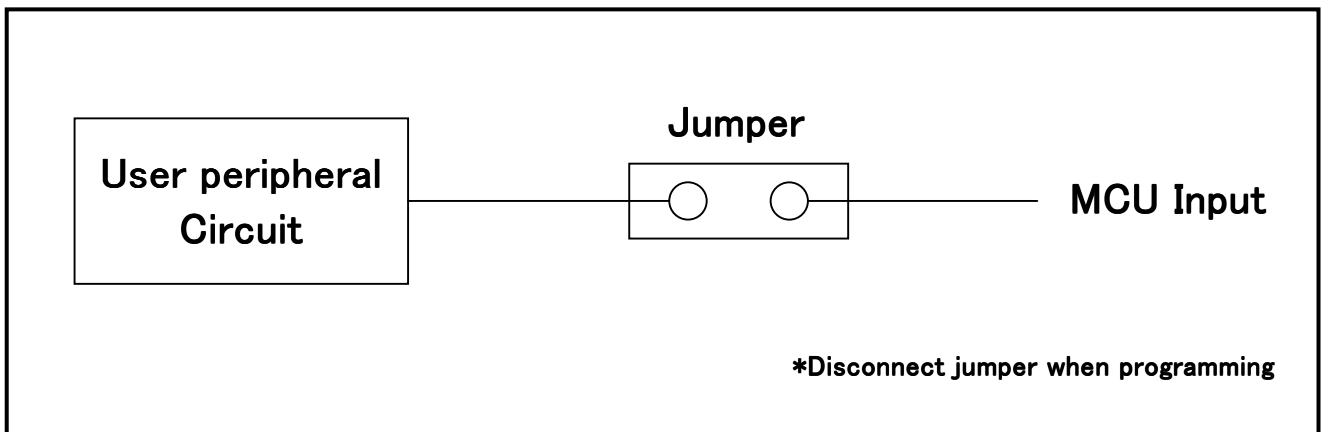

Fig. 4.2: Collision Prevention Circuit Using Jumper
(2) An example of a collision prevention circuit when user peripheral circuit outputs is shown in Fig. 4.2 and 4.3.